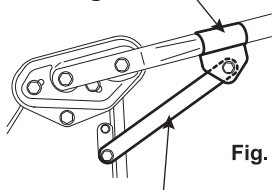

Fig. 4
3. Remove the housing bolts and loosely fix the handle assist bar temporarily. (See Figs. 4)